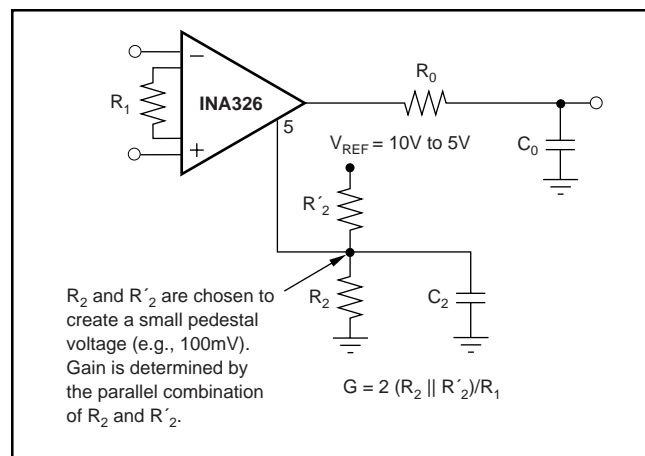

FIGURE 5. Output Range Pedestal.
NOTE: (1) C_2 and C_O combine to form a 2-pole response that is -3dB at 1kHz. Each individual pole is at 1.5kHz. (2) Output voltage is referenced to I_{A_COMMON} (see text). (3) Output pedestal required for measurement near zero (see Figure 5).